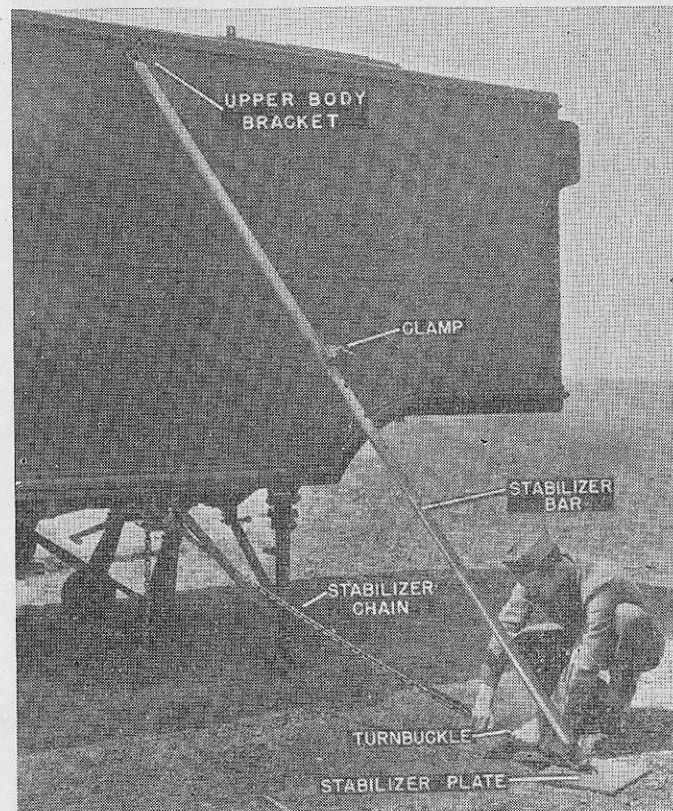

FIGURE 17.—Tightening the stabilizer.
■ 19. STABILIZING.—The following procedure is used for setting up and stabilizing the equipment (see fig. 17):